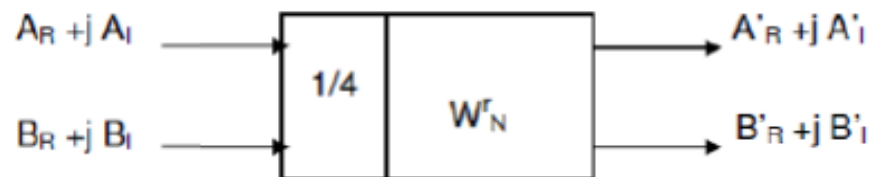
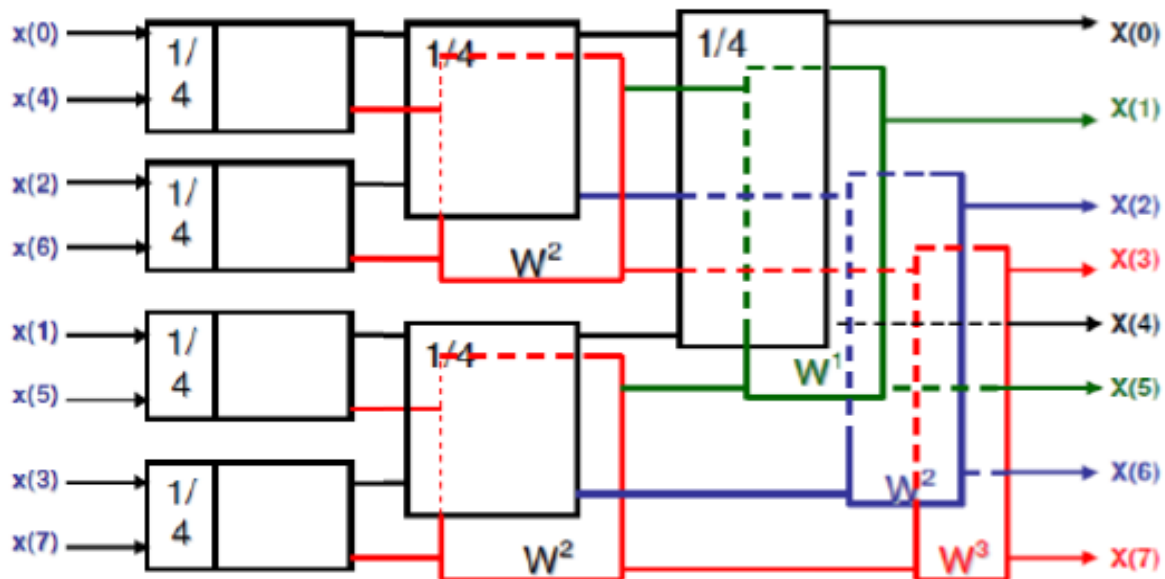

Fig 6.8: Symbolic representation of Butterfly structure with scaling factor
Fig 6.9: Signal flow graph with Scaling
- Thus scaling factor is $1/2.414=0.414$. A scaling factor of 0.4 is taken so that it can be implemented by shifting the data by 2 positions to the right. The symbolic representation of Butterfly Structure is shown in fig. 6.8. The complete signal flow graph with scaling factor is shown in fig. 6.9